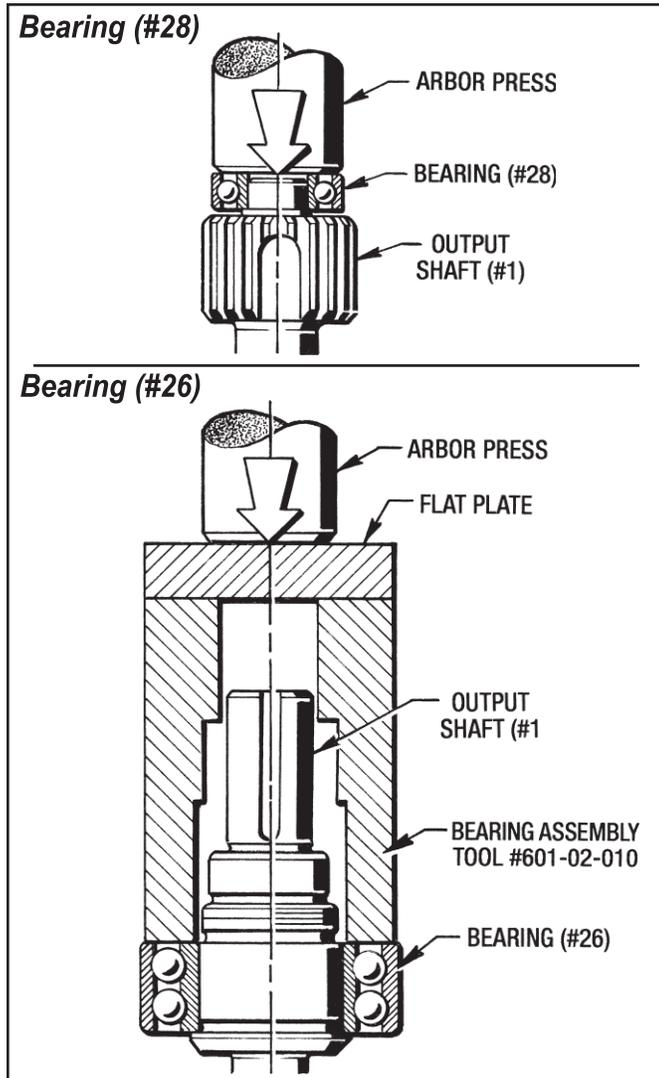

Figure 9.6 - Installing Bearings on the Output Shaft (#1)
(See Figure 9.6)
1. First install the small Bearing (#28) on to the Output Shaft (#1) with a flat plate and arbor press as shown in Figure 9.6.
2. Then install the larger Bearing (#26) on to the other end of the Output Shaft with the Bearing Assembly Tool #601-02-010 and an arbor press as shown in Figure 9.6.